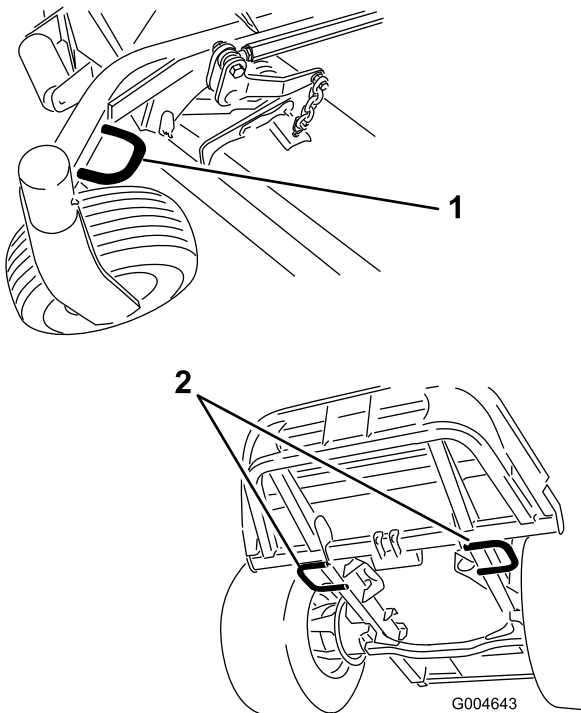

Figure 38
- Securely fasten the machine to the trailer or truck with straps, chains, cable, or ropes as required by local traffic regulations in your area (Figure 38).